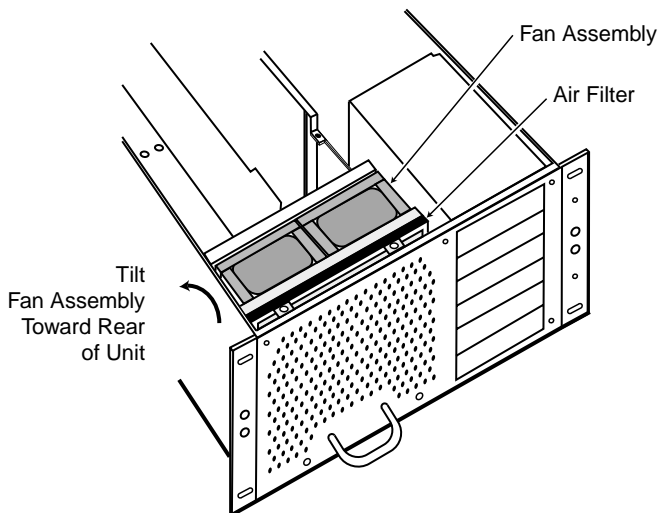

Figure 5-22. Access to Air Filter
- [] 3. Refer to **Figure 5-22**. Tilt the fan assembly toward the rear of the chassis, exposing the air filter. It is not necessary to remove the fan assembly from the chassis.